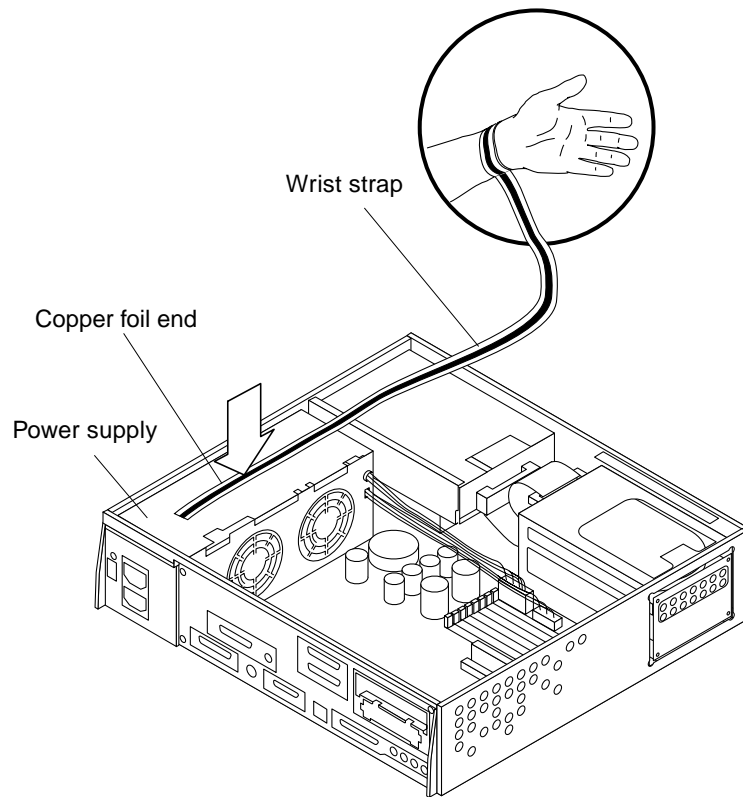

FIGURE 7-3 Attaching the Wrist Strap
1. Unwrap the first two folds of the wrist strap; wrap the adhesive side firmly against the wrist (FIGURE 7-3).